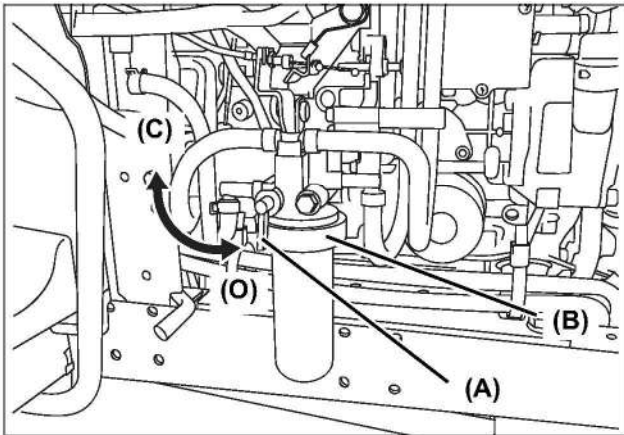

Fig 14-19
5. Turn the fuel shut-off valve (Fig 14-19, A) to the OFF (closed) position (Fig 14-19, C).
- (A) Fuel shut-off valve
- (B) Sediment bowl locking collar
- (O) ON (open) position
- (C) OFF (closed) position
6. Turn the sediment bowl locking collar (Fig 14-19, B) counterclockwise to unlock the sediment bowl.
12. Turn the fuel shut-off valve to the ON (open) position (Fig 14-19, O).